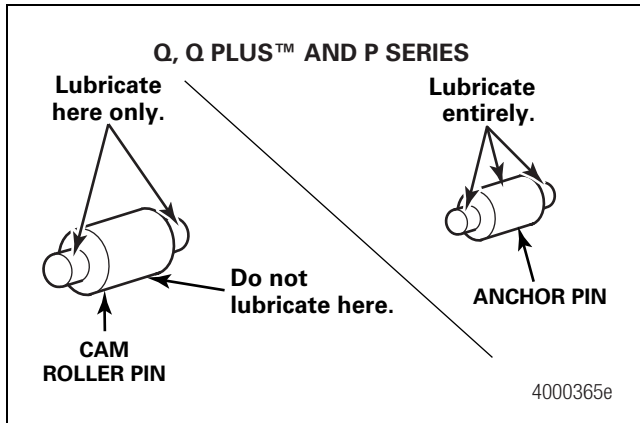

Figure 5.18
1. Use Meritor specification O-617-A or O-617-B grease to lubricate the brake shoe roller pin and anchor pin. Figure 5.18.
1. Lubricate the camshaft roller pin and anchor pin with Meritor specification O-617-A or O-617-B grease. Figure 5.18.